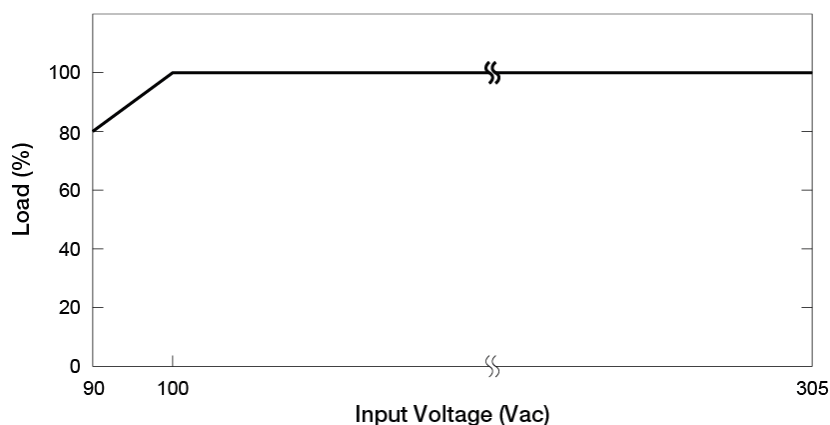

**Fig. 1 De-rating for All Mounting Orientation (All Models)**
\* For power de-rating from 60°C to 70°C, see power de-rating at Fig.1 on page 10.
1. Power supply components may degrade, or be damaged, when the power supply is continuously used outside the shaded region, refer to the graph shown in Fig. 1.
- If the device is continuously operating outside the shaded region shown in Fig. 1. The device may be damaged or degraded.